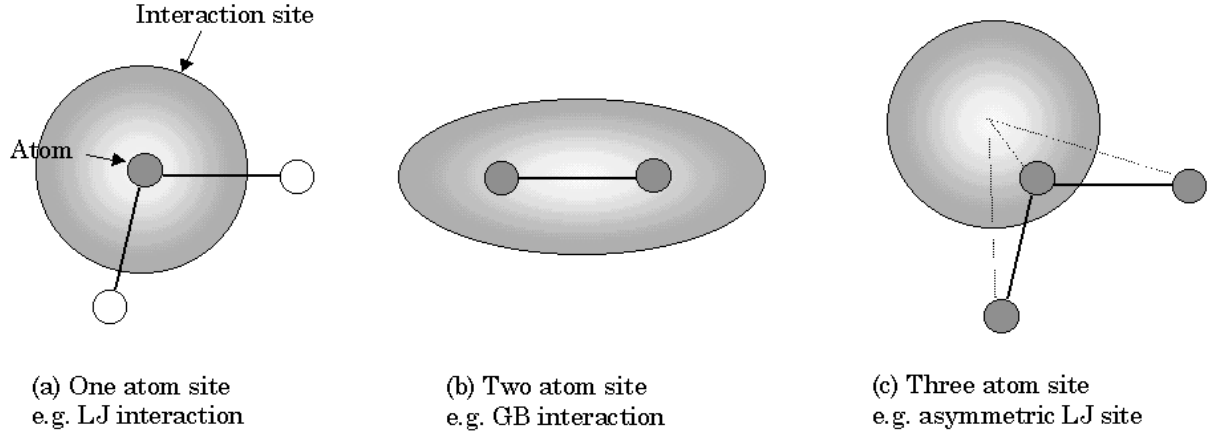

Figure 2.1: Definition of the interaction site
**COGNAC** can handle not only spherical objects but also non-spherical ones such as ellipsoids. The objects are defined by one or more atoms as it is shown in Figure 2.1. We call them the interaction site. The pair interaction and the external interaction are calculated using the positions of atoms, which define the interaction site.